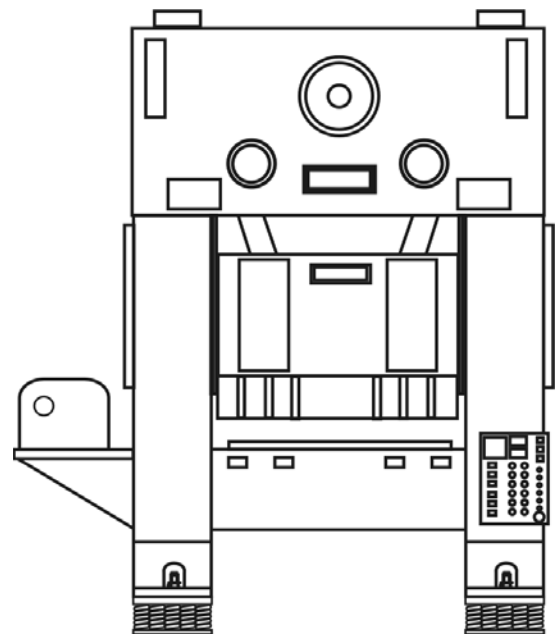

Figure 1
3. If a feed is rigidly attached to the press, then it must be totally supported by the spring mounts as shown in Figure 1. It cannot be partially supported by the press and the foundation or isolator performance will suffer. The weight of the feed must be taken into account at the time of the isolator selection and recommendation.